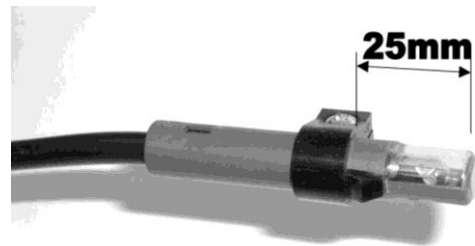

Fig 10.8
- Remove, check and clean the photocell. Replace if damaged. Ensure the photocell clamp is fitted 25mm from end as shown in fig 10.8.